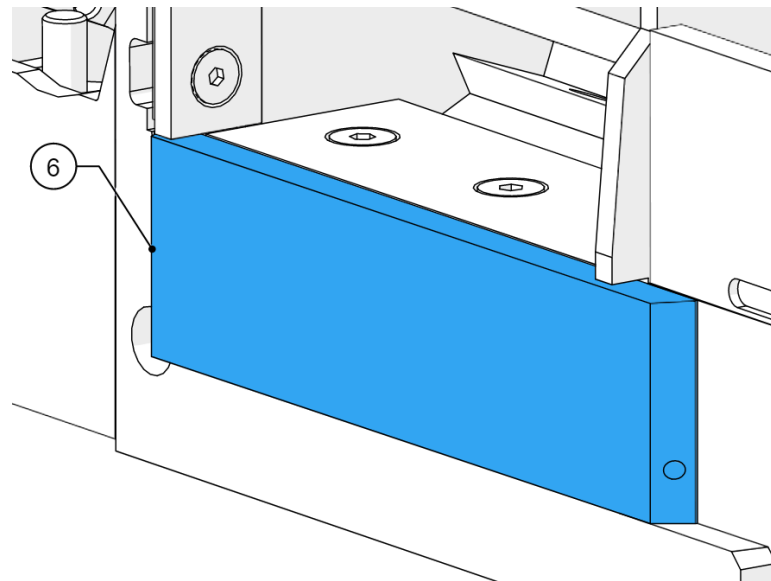

Figure 61 - Anvil in vertical seat
16. Push the anvil into the seat under the side anvil (6, Figure 61).